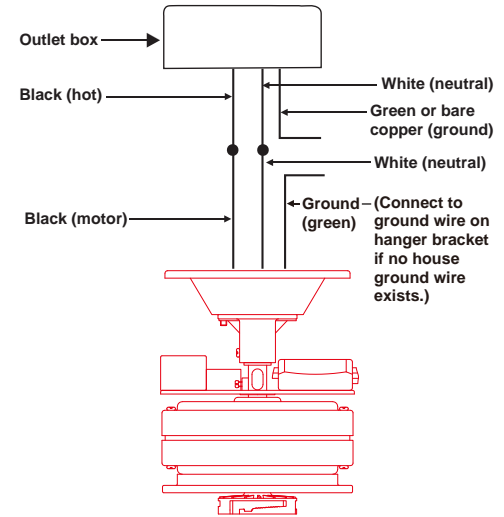

Fig. 8
Step 1. (Fig. 8) Motor to House Supply Wires Electrical Connections: Connect the Black wire from the fan to the black (hot) wire from the ceiling. Connect the White wire from the fan to the white (neutral) wire from the ceiling. Secure wire connections with the plastic wire nuts provided.
Step 2. (Figure 8) If your outlet box has a ground wire (green or bare copper) connect it to the fan ground wires; otherwise, connect the hanging bracket ground wire to the mounting plate ground wire. Secure the wire connection with a plastic nut provided. After connecting the wires, spread them apart so that the green and white wires are on one side of the outlet box and black and blue wires are on the other side. Carefully tuck the wire connections up into the outlet box.